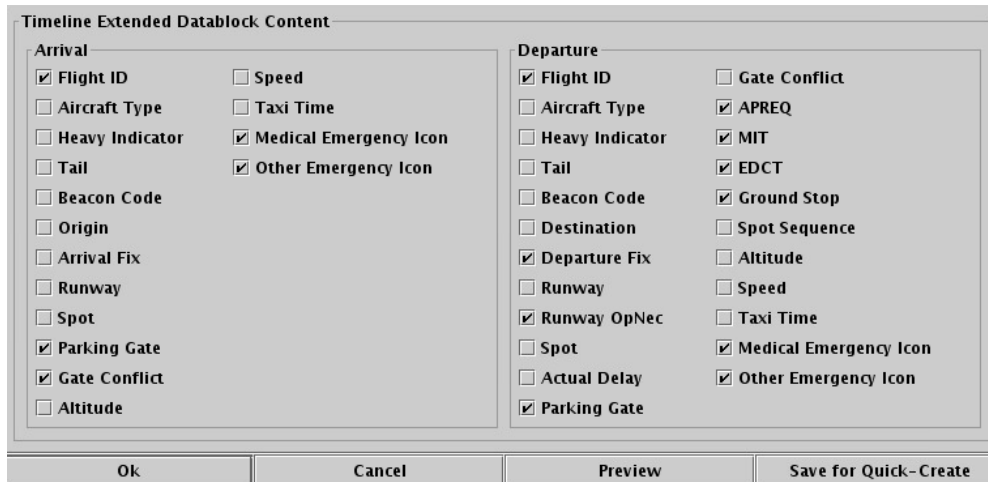

Figure 19. Timeline datablock content.
**Step 1:** Select the items to be displayed in the Timeline datablocks (Figure 19) and deselect items to be removed from the Timeline datablocks. Make changes separately for arrivals and departures.